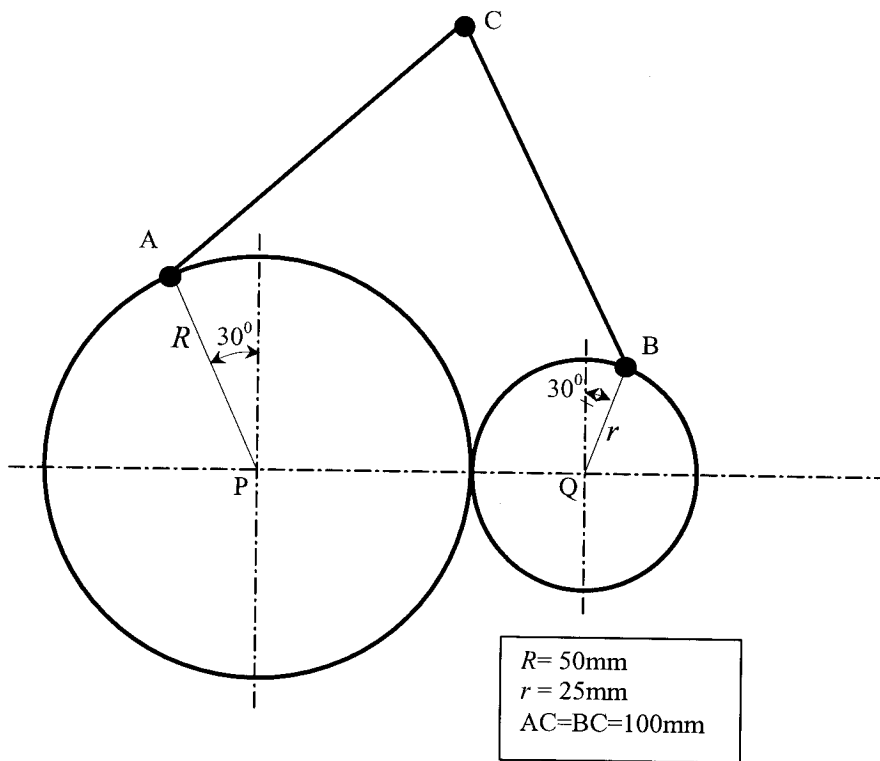

Fig.Q4
Q4. Outlines of two (2) rubber wheels are shown in Fig.Q4. The radius of the larger wheel is twice the radius of the smaller one. The wheels rotate, about their respective centers P and Q, without slipping at the point of contact. Two (2) links AC and BC are hinged at circumferential points A and B respectively, meeting at a hinged joint C. For one complete clock-wise revolution of the larger wheel, trace the locus of hinge C from its current given initial position.